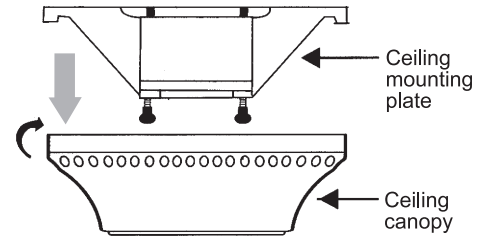

Figure 5
Step 1. Remove the hanger bracket from the canopy by loosening the two screws on the bottom of the hanging bracket a half turn from the screw head and turning the canopy counter clockwise.(Fig. 5)